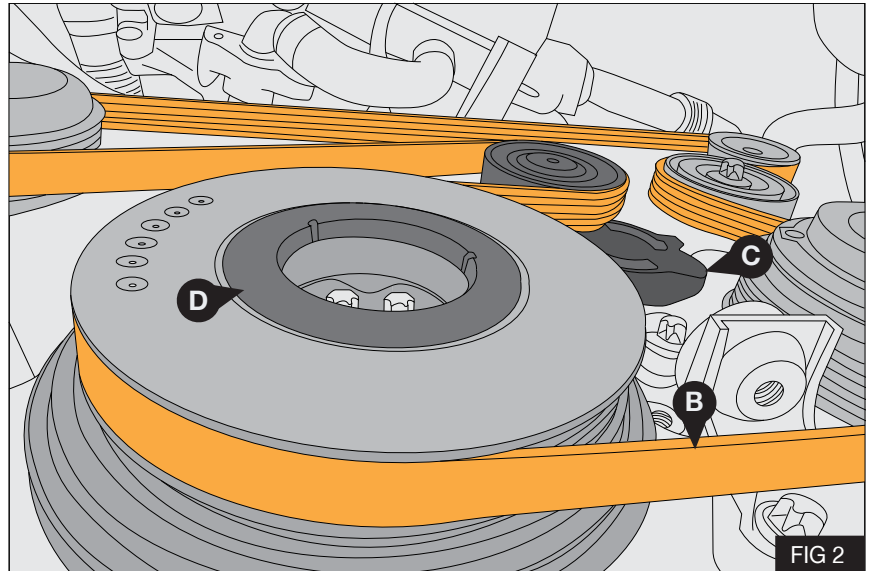

FIG 2
2. Pin open the tensioner (C) using 4mm pin, make a note of belt route and remove and retain the drive belt (B) - Fig 2
3. Remove and discard plastic bearing cover (D) - Fig 2